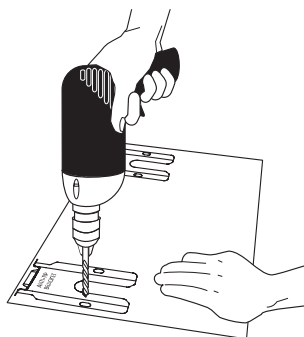

Fig. 23
- 2. Drill Pilot Holes & Fasten Bracket** - Drill 1/8" pilot hole where screws are to be located (Fig. 23). If bracket is to be mounted to the wall, drill pilot hole at an approximate 20° downward angle. If bracket is to be mounted to masonry or ceramic floors, drill 3/16" pilot hole 1-3/4" deep. The screws provided may be used in wood or concrete material. Use 5/16" nut-driver or flat head screwdriver to secure the bracket in place.